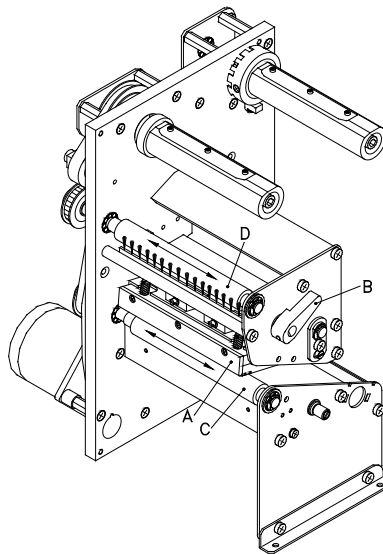

Figure 12
2. Turn red lever (B, in Figure 12) counter clockwise to lift up the printhead.
4. Blow out the photocell (A) with pressure gas spray. Observe strictly the instructions on the spray can!
5. Clean the label photocell (A) additionally with a cleaning card (B) before soaked in pure alcohol. Move the cleaning card from one side to the other (see illustration).